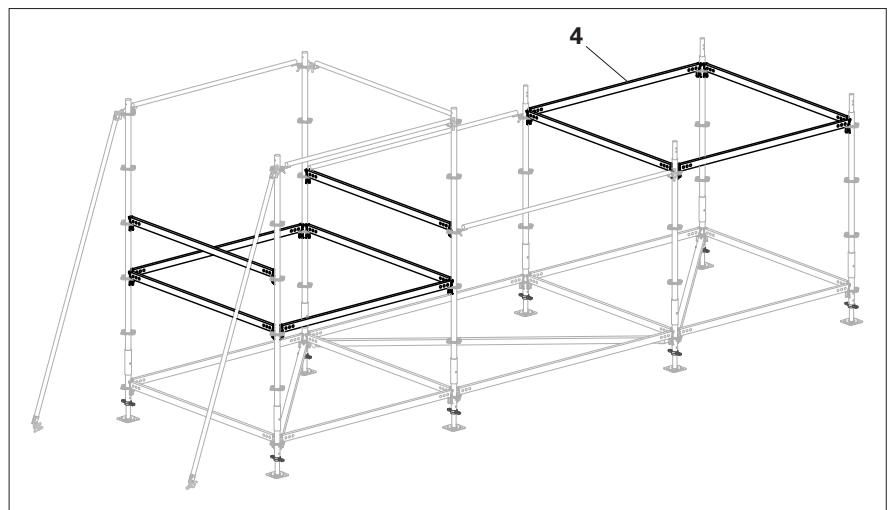

Fig. C1.03
7. Fit 10 x Horizontal Ledger UH-2 200 (**4**). (Fig. C1.03)